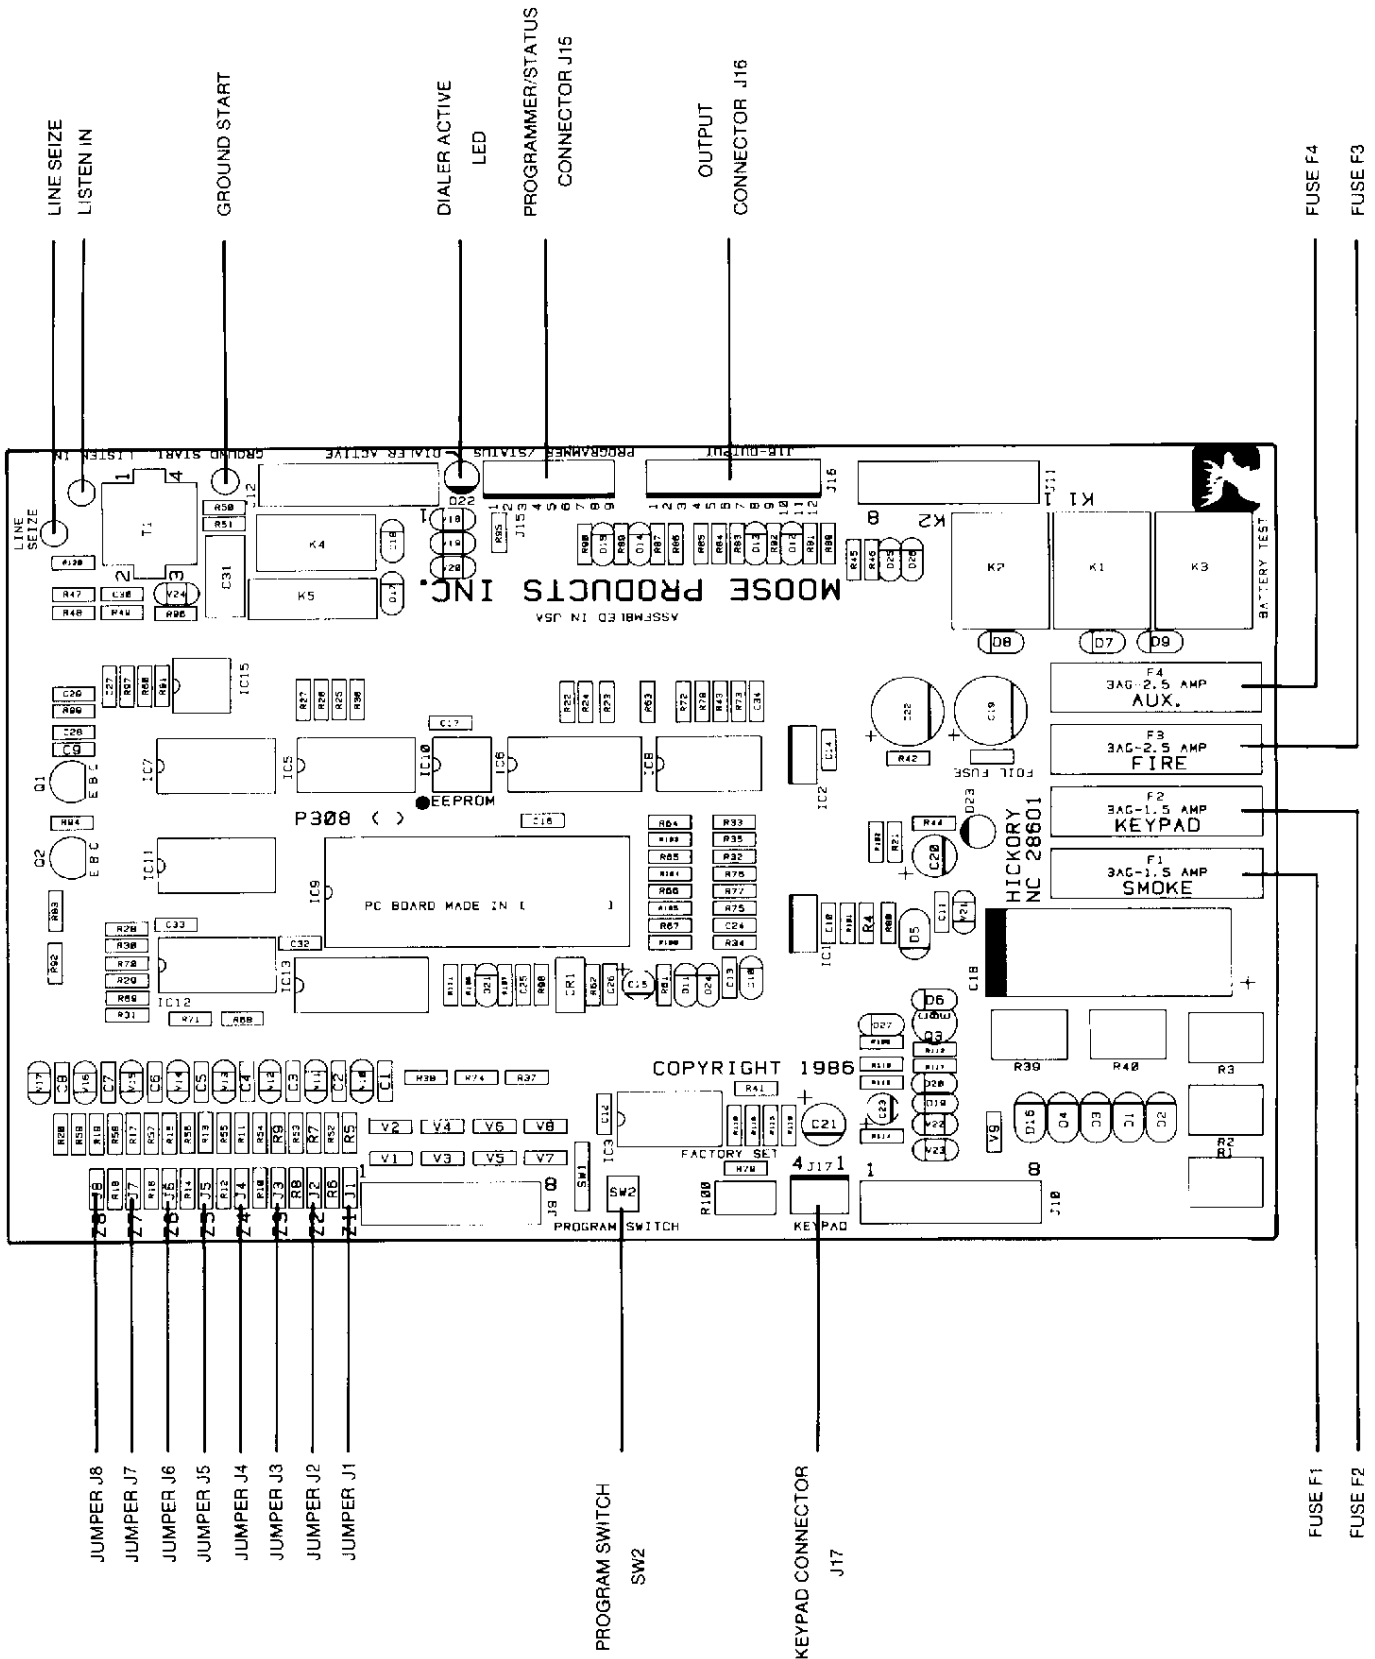
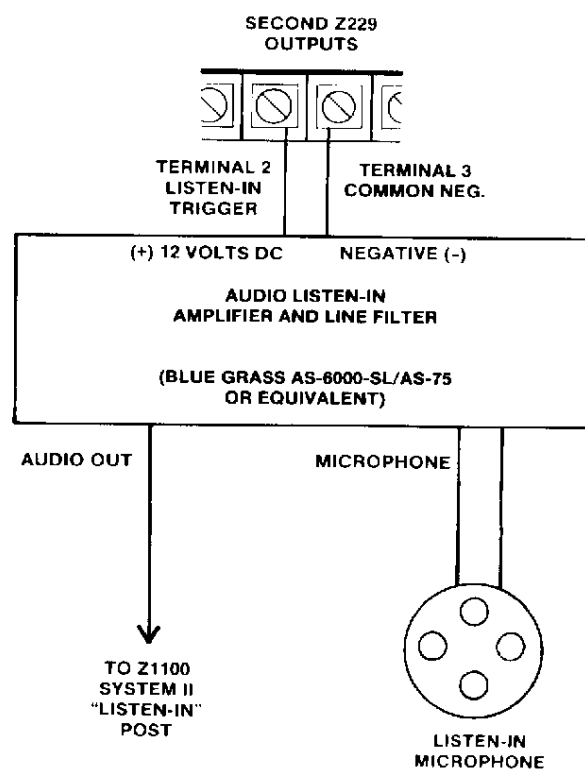

Figure 2-14 Control Board Component Layout
Figure 3-1 Listen-in Hookup
Outputs of the Z1100 System II are present at connector J-16 on the control board. See Figure 2-14. An unpluggable 12 pin flying lead connector is provided to plug into connector J-16. The function of each output is shown in Table 2-2. Each of these outputs (3 thru 12) are capable of triggering relay K1, K2, an MPI-206 Relay Board or auxiliary devices such as the JDS-108 which require less than 50 milliamps at 12 Volts DC. More than one of these outputs can be connected to the same low current trigger terminal. For example, police and medical outputs (J-16, 9 and 10) can both be connected to terminal 23.
**NOTE:** Figure 2-14 gives the Control Board Component layout.
If any of the zones 1-8 are to be used as normally closed loops with no end-of-line resistor, the corresponding jumper Z1-Z8 should be cut. These jumpers resemble white resistors. The parts locations are marked J1 thru J8 under the part and Z1 thru Z8 to the left of the part. Z1 thru Z8 are arranged in reverse order from zones 1 thru 8 on the terminal strips. See Figure 2-14 for the location of the normally closed protective loop jumpers.
The program switch, which allows entry into installer function programming, is located on the left side of the Z1100 System II control board. Momentarily depressing the program switch starts a 3 minute timer, allowing entry to installer level programming. See Figure 2-14 for the location of the program switch. Each time a key is depressed in the program mode, the 3 minute timer is restarted. The control station will beep as long as the program switch is held closed.
The J-15 Programmer/Status connector is located on the upper right side of the control board (See Figure 2-14). It provides a serial data bus and +12V power for the Z1100P Programmer, or the Z229 output expansion modules.
The Dialer Active LED is located on the upper right side of the control board (See Figure 2-14). It lights when the communicator seizes the telephone line and starts the dialing process. The LED goes out when the communicator completes the dialing and receives a kissoff from the Central Station receiver.
The Ground Start output is located on the upper right side of the control board (See Figure 2-14). It provides a low current output going from +12V to ground (0 volts) when the pulse dial relay is active. The Z232 ground start module trigger input connects to this point.
The Communicator Listen-In input is located on the upper right corner of the control board (See Figure 2-14). It is an input to inject the audio signal from a listen-in microphone, amplifier and line filter onto the telephone line. A listen-in output trigger is located on the second Z229 output expansion module. (See Figure 3-1 for a suggested listen-in hookup.)
Connector J-17, located on the left side of the control board (See Figure 2-14), provides a quick way to plug-in a Z1100R Control Station in order to program the Z1100 Control at the control box. A two-ended connector cable, Moose part #Z217, should be ordered for this purpose.